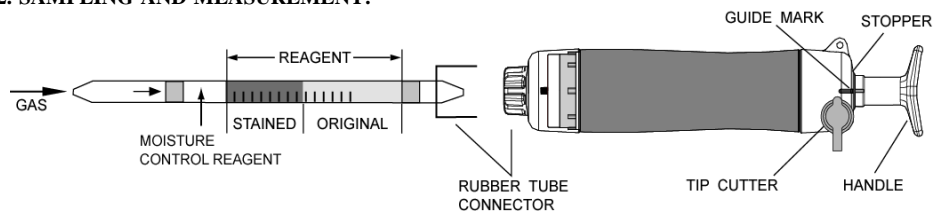

Fig.1
- ② Insert the detector tube into aspirating pump securely as shown in Fig.1. (Arrow mark shall point to the pump.)
- ③ Align the guide marks on the shaft and stopper of the aspirating pump.
- ④ Pull the pump handle at full stroke locked position and wait for 1 minute or until the completion of sampling is confirmed with the flow indicator of the pump (See descriptions about the flow indicator in the instruction manual of the pump).
- ⑤ On completion of sampling, read the scale at the maximum point of the stained layer.
- ⑥ When concentrations are below the scale range, multiple pump strokes can be used to determine these lower concentrations.